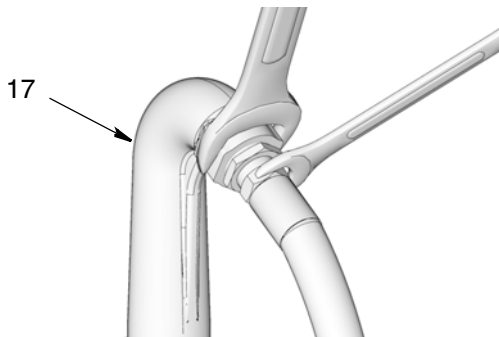

FIG. 55
- Attach end of the hose to the outlet (17) using two wrenches on the flats, working in opposite directions, to securely tighten the hose to the outlet fitting (FIG. 55).